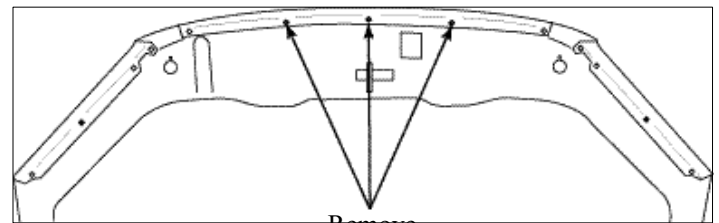

Fig. B1
1. Remove and discard the three (3) weather strip fasteners shown in Fig B1.